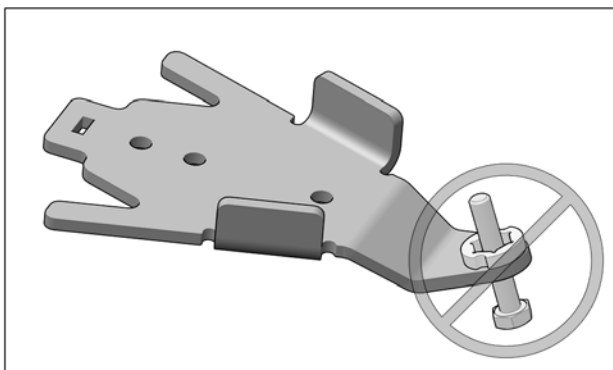

Fig. 10
**CAUTION:** Make sure that the bolt is inserted in the right direction. See Fig. 10